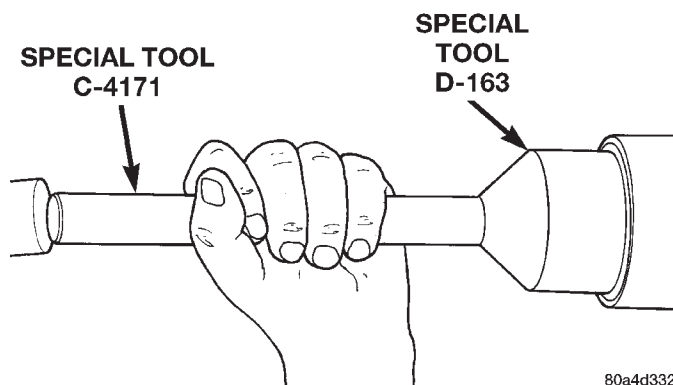

Fig. 14 Install Rear Retainer Seal
- (1) Clean fluid residue from sealing surface and inspect for defects.
(2) Position replacement bushing in rear retainer with fluid port in bushing aligned with slot in housing.
(3) Using Installer 8157, drive bushing into housing until installer seats against case.
(4) Using Installer D-163, install seal in rear retainer (Fig. 14).